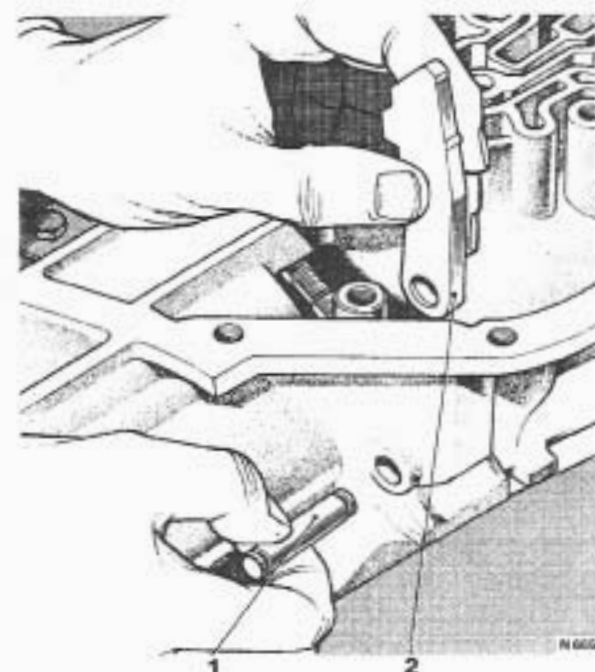

FIG. T235 FITTING THE PARKING PAWL AND SHAFT
1. Fit the parking pawl with the tooth toward the centre of the transmission then fit the parking pawl shaft (see Fig. T235).